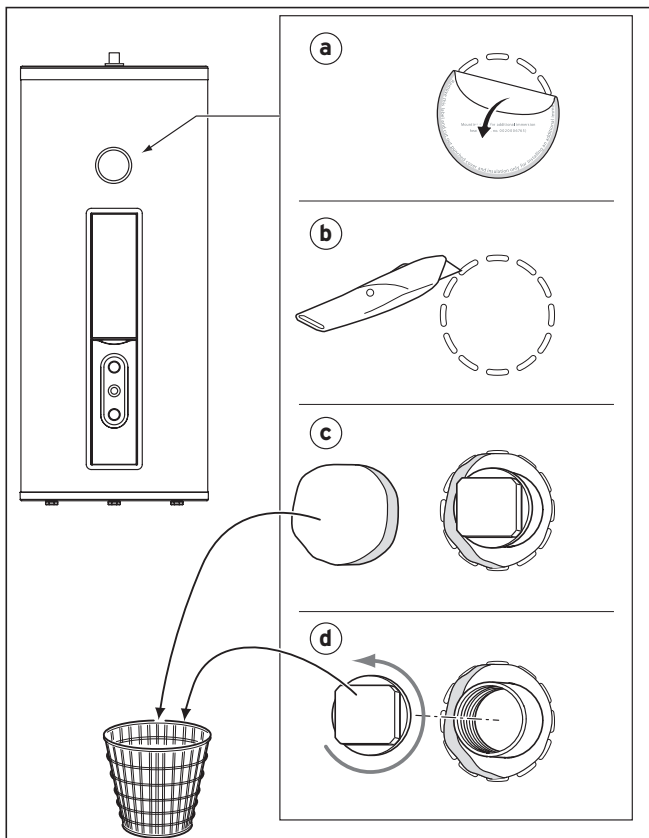

Fig. 3.1 Preparation of the cylinder
- Cut out the Styrofoam insulation along the perforation marked in the cylinder cover (see figure 3.1)